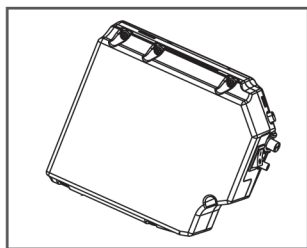

Figure 22
a. Loosen the 6 self-tapping screws from inside of the electric wheelchair (i.e. back of the battery box) and open the back cover, see Figure 22. The methods are same for left side and right side;